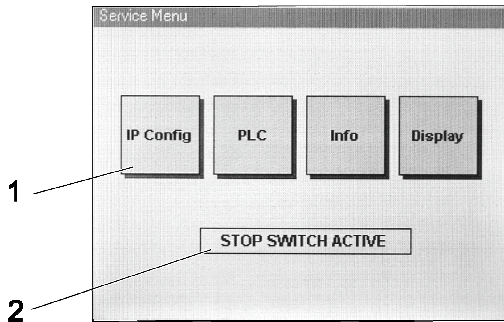

Fig. 22: Service menu
- **Menu option buttons:** Buttons to call the menu options in the upper area of the dialog window (Fig. 22/ Pos. 1).
- **System messages:** Status messages and error messages of the device can be displayed in the lower area of the dialog window (Fig. 22/ Pos. 2).